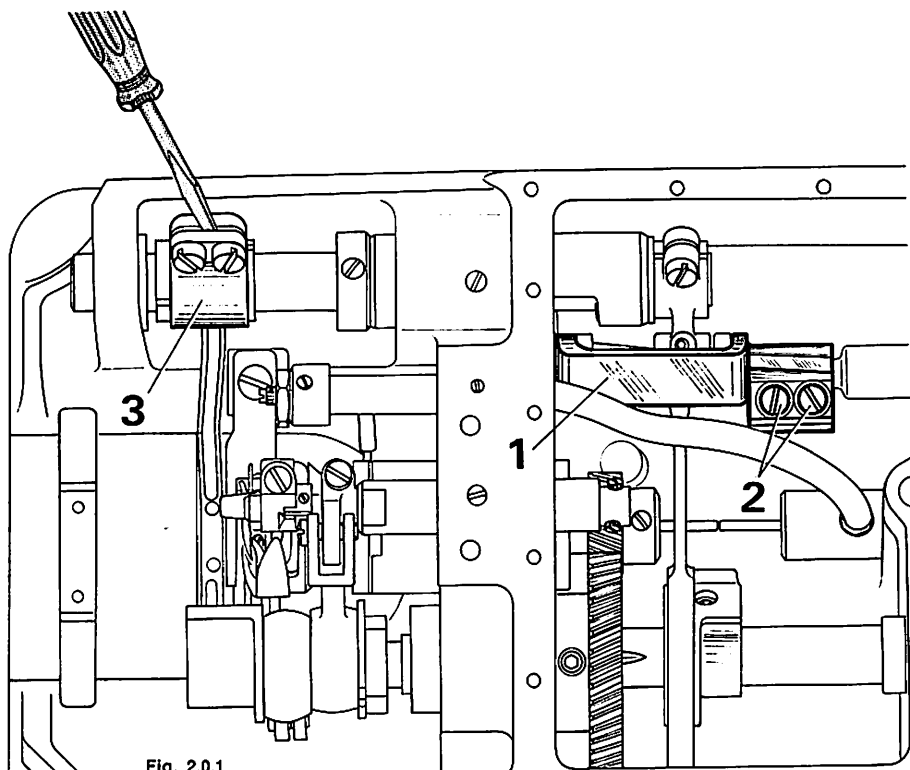

Fig. 2.0.1.
- 2.4. Adjustment procedure to be applied when the gearcase is open (Fig. 2.0.1.)
- 2.4.5. To facilitate adjustment, insert a screwdriver in the slot of feed rock shaft crank 3 (see Fig. 2.0.1.).